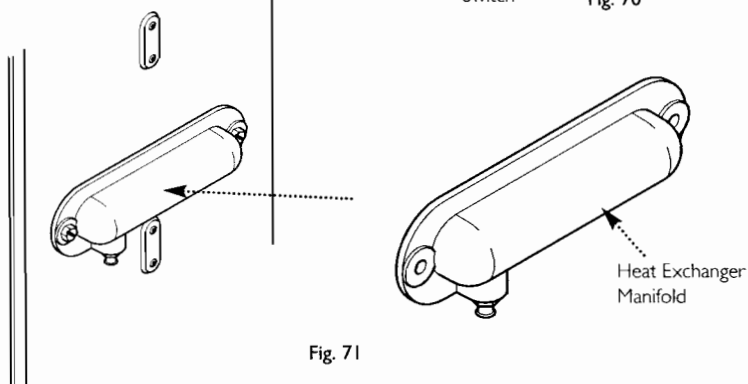

Fig. 71
4. Undo the screws securing the heat exchanger manifold and remove the manifold (Fig. 71).